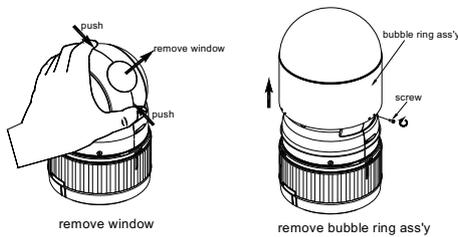

Figure 2. Remove the Window and the Bubble Ring Ass'y
Note : It is recommended to remove the Window and the Bubble Ring Assy of the Dome Camera to improve the quality of picture. Refer to the figure 2.
- Note : It is recommended to remove the Window and the Bubble Ring Ass'y of the Dome Camera to improve the quality of picture. (Refer to the Figure. 2)
9. Insert the Rubber Gasket (7) into the Body (6) and fasten the Bubble Ring (11) to the Body (6) using 3 screws (13).